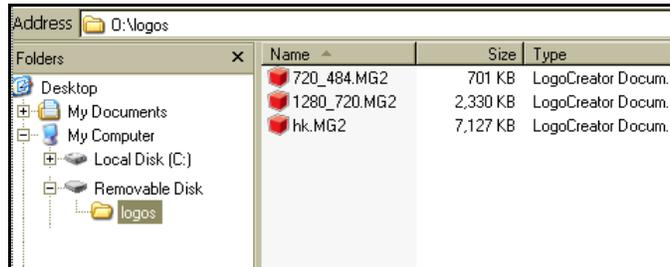

Figure 2-7. Valid SD Card in Browser Window
- The SD card must be of the *microSD variety*, formatted as FAT/FAT16 (FAT32 is not supported; see “Formatting the SD Card” on page 37). SanDisk SD SDQ-1024-K (1G), SDQ-2048-K (2G), SDQ-4096-K (4G) Micro SD cards have been verified. Figure 2-7 shows a valid SD card in a PC browser window.